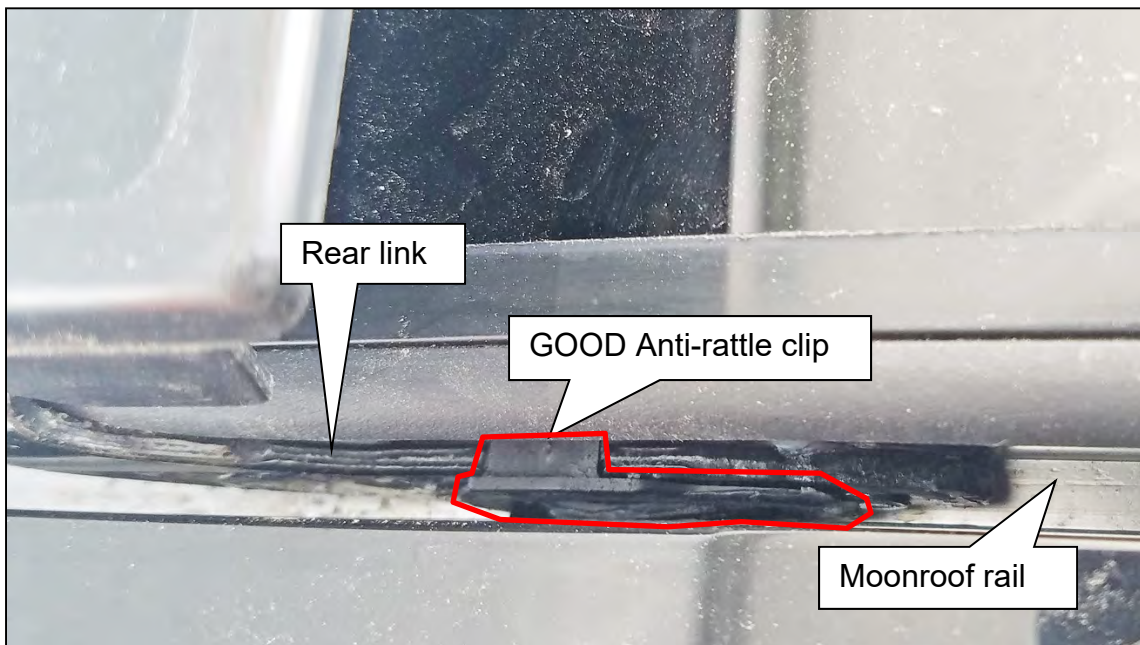

Figure 5
- Refer to Figure 5 for an example of a GOOD anti-rattle clip. If no pieces of the anti-rattle clip (outlined in red) are missing or broken, this bulletin does not apply. Refer to the ESM for further information.